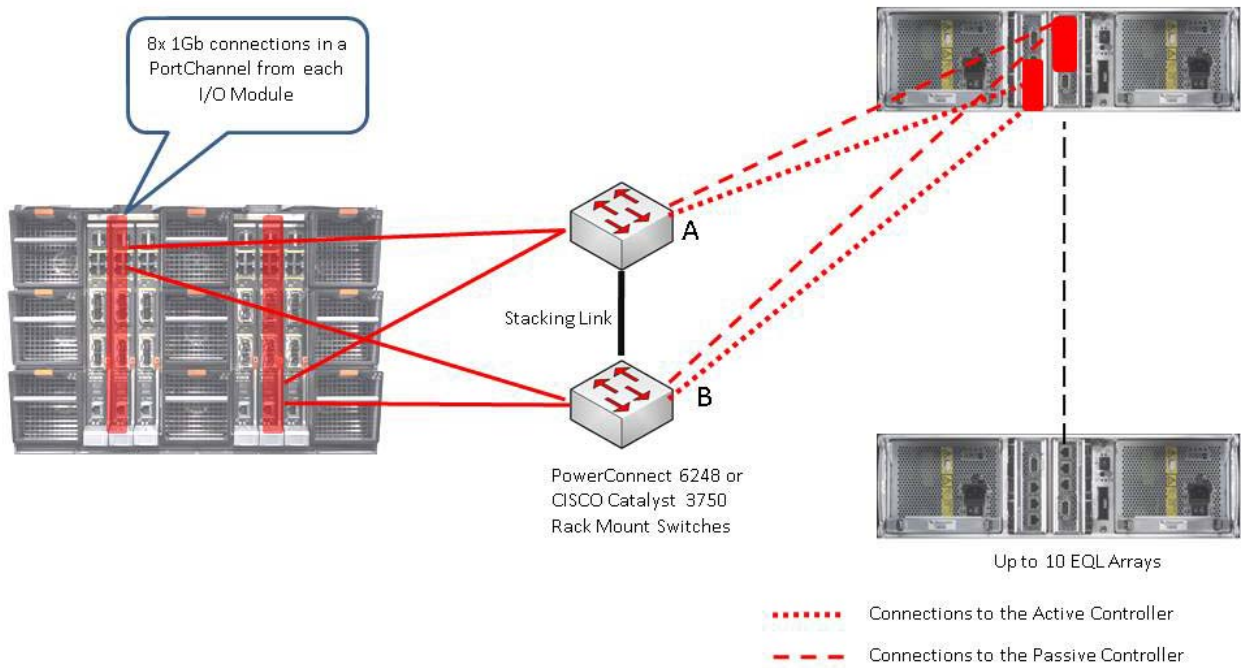

Figure 10: Scalable storage configuration using 48 port external switches
- When setting up a scalable configuration it is important to consider the total amount of bandwidth between the chassis and the external switches, and between the external switches and the storage arrays. If higher bandwidth is required between the internal I/O modules and the external switches, consider using 10 Gb uplinks between the internal I/O modules, and the external switches. See figure 10. Each switch in the example can have up to two 10 Gb modules for CISCO switches, or four 10Gb modules for Dell PowerConnect